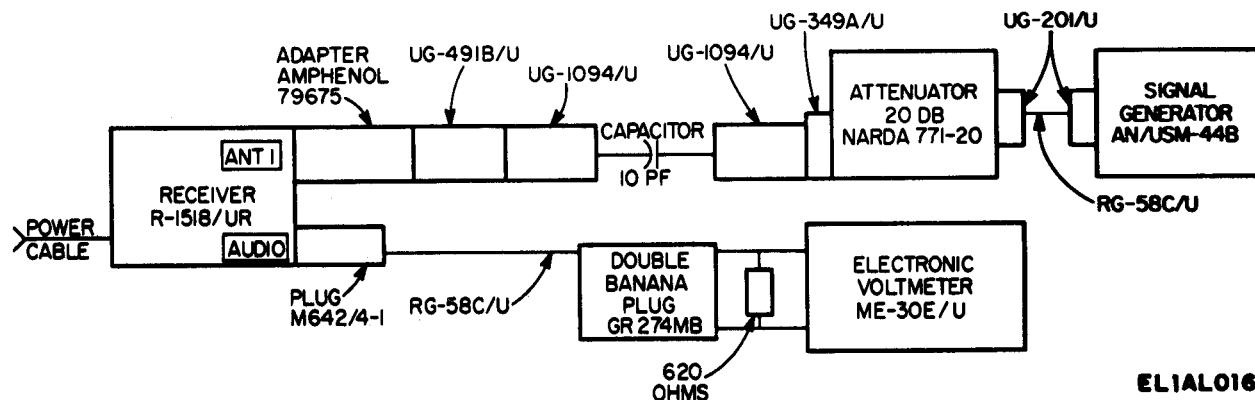

Figure 6-8. AM whip sensitivity test connections.
(1) Perform a (1) above.
(2) Connect the test equipment as shown in figure 6-8.